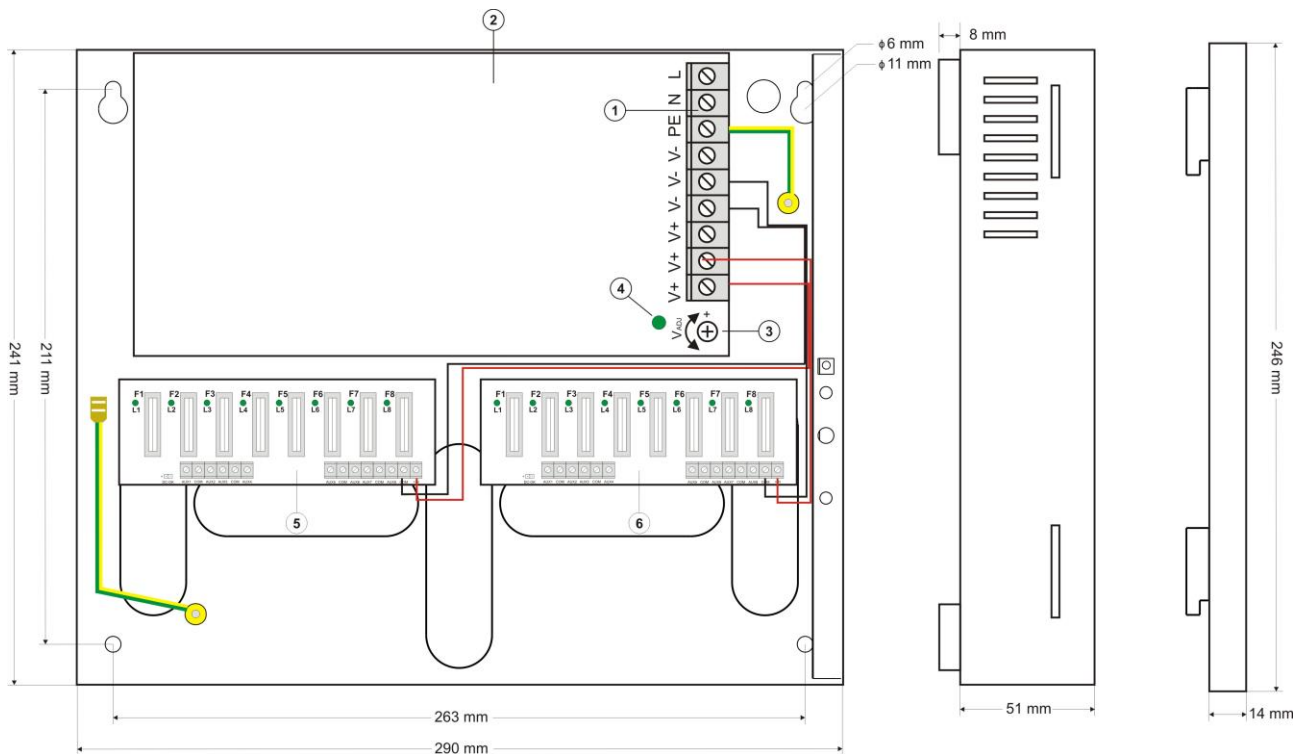

Fig.3. The view of the PSU.
**Table 2. Elements of the PSU (see fig. 3).**
Fixing	See figure 3